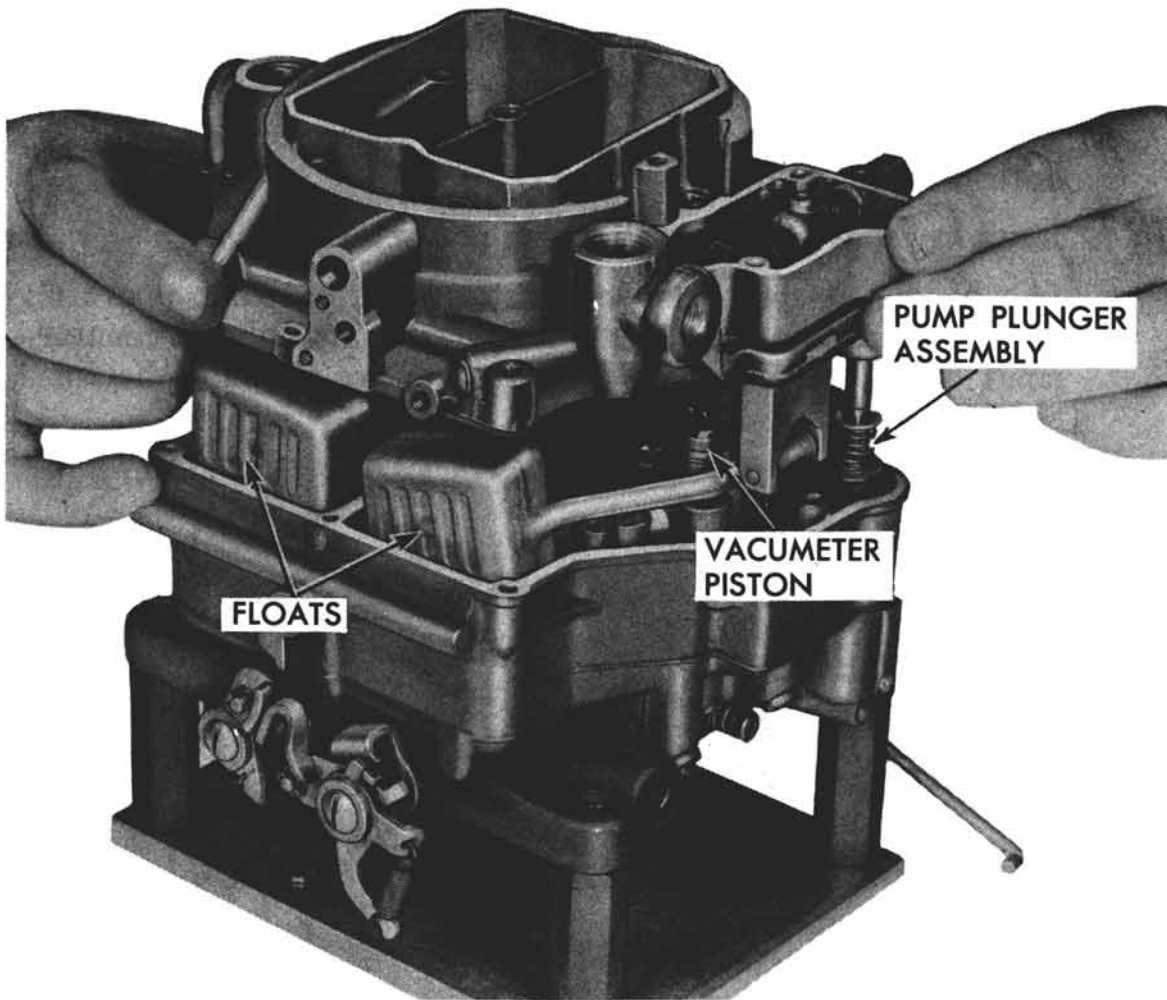

Fig. 23-C Removing Bowl Cover
1. Remove 16 bowl cover attaching screws. Lift bowl cover straight up to prevent damaging floats, vacumeter piston, or pump plunger assembly (Fig. 23-C). To avoid bending floats, be sure bowl cover gasket is not sticking to bowl.